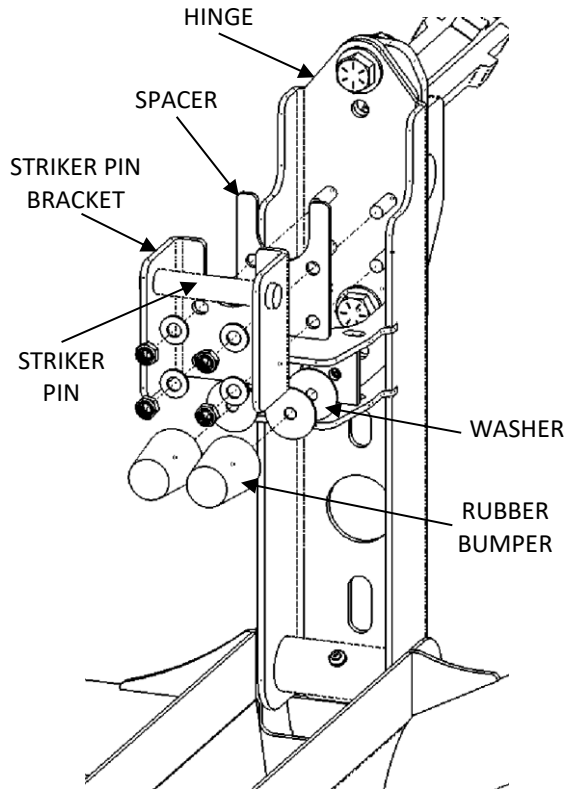
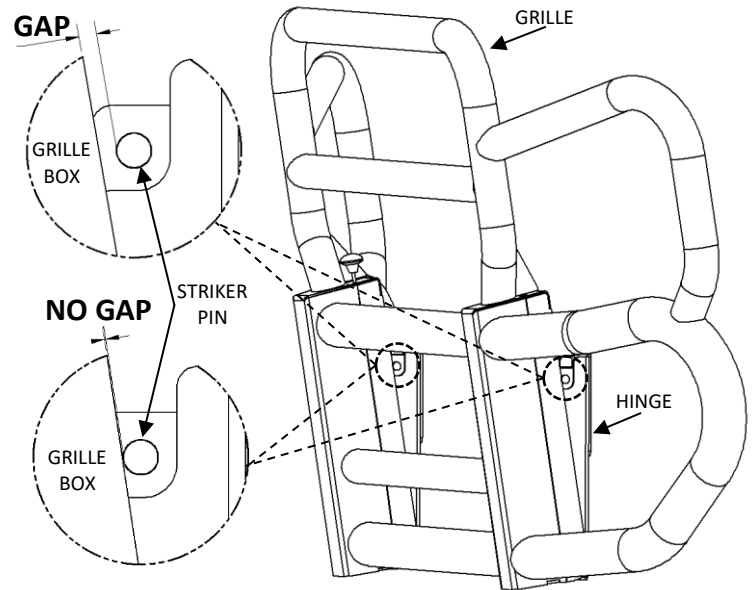

Figure 5: Hinge Assembly (Your Hinge Assembly may not be exactly as shown)
Figure 6: Striker Pin adjustment (Your Grille may not be exactly as shown)
This procedure shows how to adjust Latch using components in Hinge Assembly as shown in Figure 5.
1. Lift Grille near closed position, JUST to the point where there is no gap between Grille Box and Striker Pin on at least one side of Grille (driver or passenger side) as shown in Figure 6. Observe gap between Grille Box and Striker Pin (Figure 6) on both driver and passenger side.
- a. Add one Spacer (extra spacers have been included in shipment package) between Hinge and Striker Pin Bracket (Figure 5) on side of Grille that has gap (Figure 6), then repeat steps 1 and 2. **Maximum three Spacers fit on each side** and if more adjustment required, skip to step 3b.
- b. If there is a Spacer between Hinge and Striker Pin Bracket (Figure 5) on the side for which there is no gap (Figure 6) then remove it and repeat steps 1 and 2. If there is no Spacer, no further adjustment can be made, please contact HERD.
4. Once Striker Pin adjustment is complete, slam Grille closed. Try shaking Grille. If there is excessive play on either driver or passenger side of Grille or if the user desires Grille to close more firmly, add Washers behind Rubber Bumpers (Figure 5). Extra Washers have been included in shipment package.